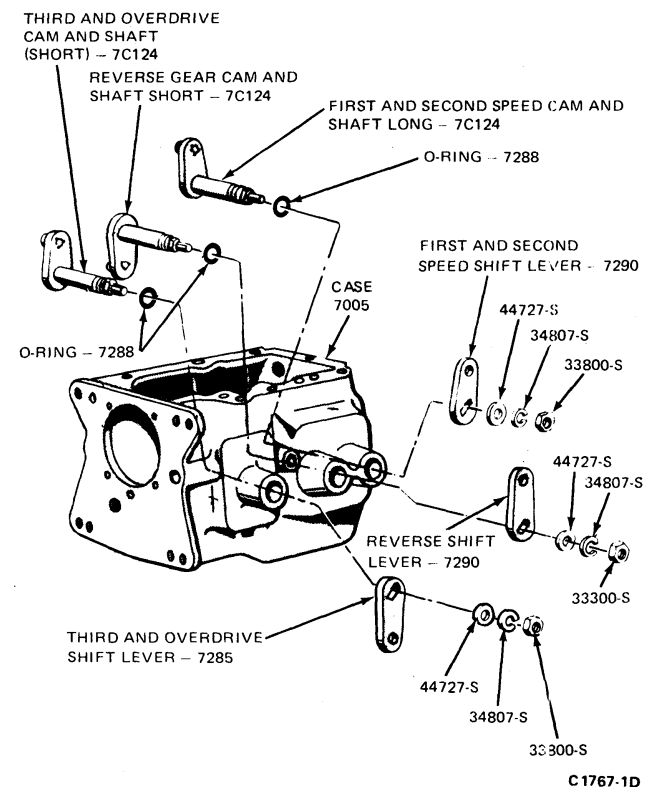

FIG. 18 Cam and Shafts and Shift Levers
3. Remove and discard the O-ring from each cam and shaft (Fig. 18).